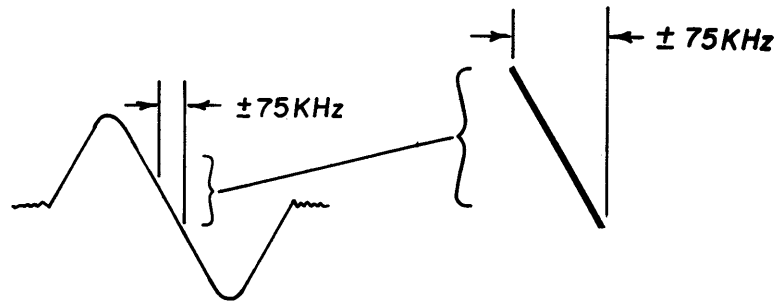

Figure 5.
4. Remove the demodulator probe from Pin 1 of IC 1 and attach a straight-through probe to R351 (3.3K), wired between I.F. board "out" and Multiplex Board "in", on the multiplex side. With generator output reduced to approximately 5 microvolts, adjust T204, bottom slug, for maximum gain and "straightness"; T204, top slug, for equal + and - swings about the horizontal center line of the display, Figure 5. Reduce deviation to  $\leq 75$  KHz, centering sweep display. Increase generator output to 1000